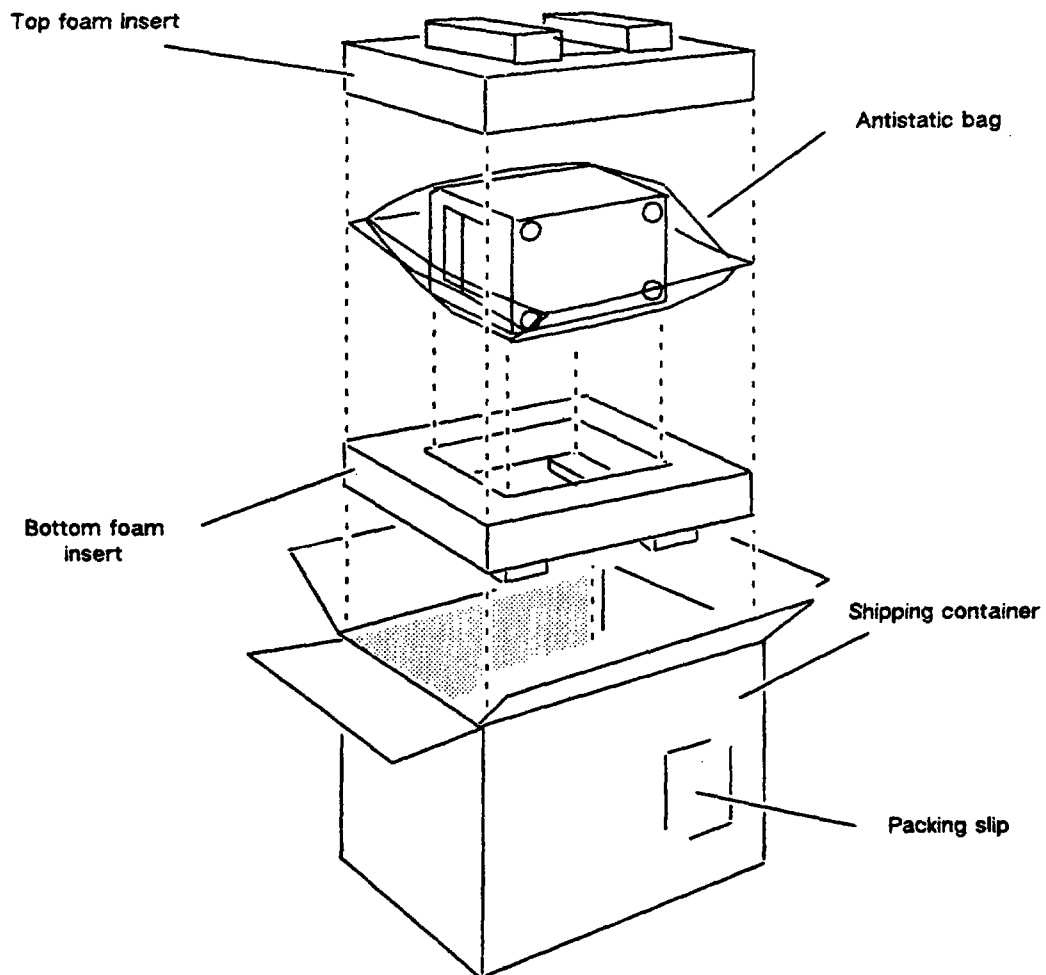

Figure 1-1 Shipping Package
1. Figure 1-1 shows the shipping package for the PHU. Open the shipping container, and remove the top foam insert. Slide your hands in between the PHU and the foam insert, and grasp the bottom of the PHU, which is in an antistatic bag. Gently slide the PHU up and out of the shipping container. If possible, save the shipping package in case you ever need to reship the PHU. The shipping package is specially designed to protect the PHU from damage.